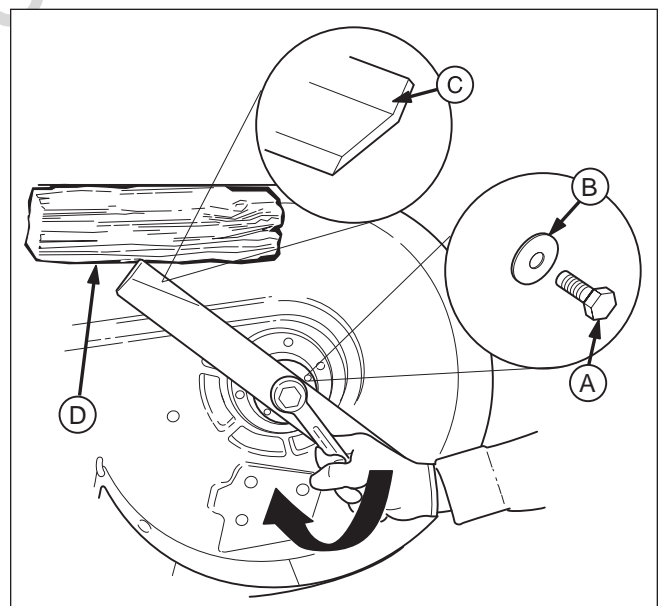

Figure 31. Tightening the Mower Blade for Installation
1. Reinstall each mower blade with the air lifts pointing up towards the mower deck as shown in Figure 31. Secure with the mower blade mounting bolt and flat washer (**A & B, Figure 31**) and torque to 120 ft. lbs (163 Nm).